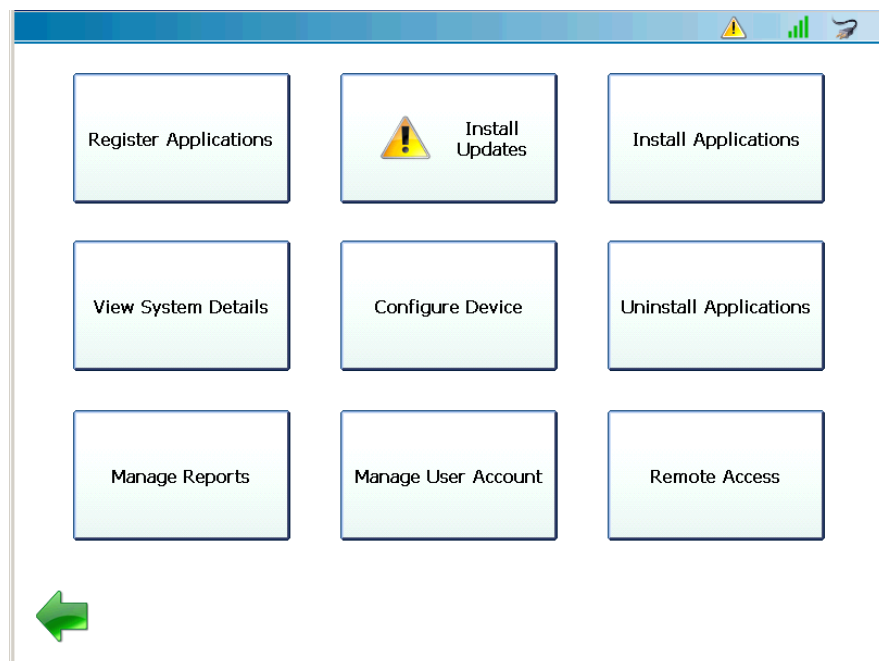

Figure 5.12 Admin Menu Indicating Updates Available
- 1 Select **Install Updates** on the Admin Menu (Figure 5.12).